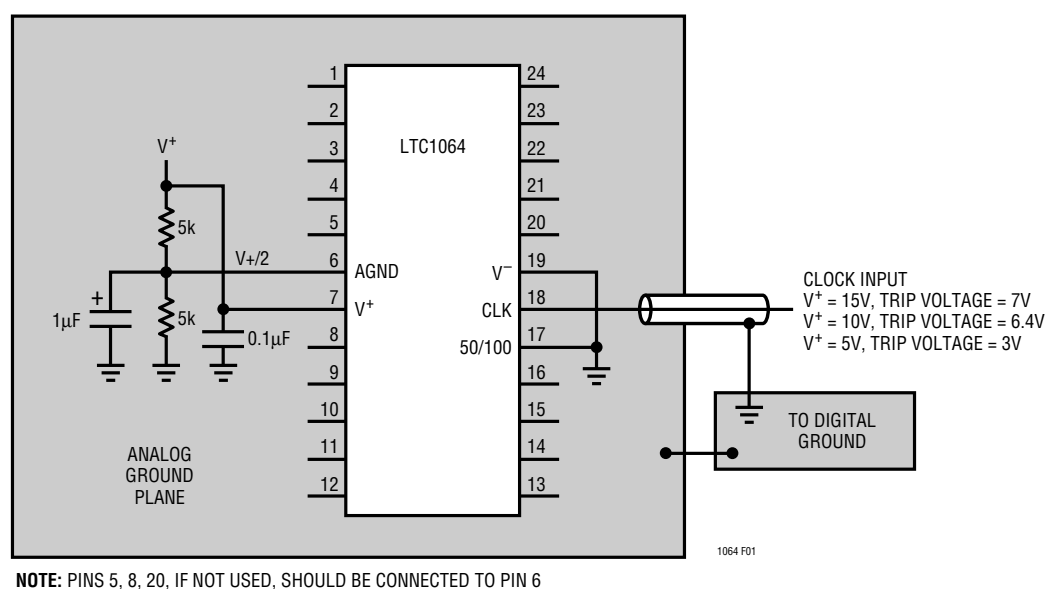

Figure 1. Single Supply Operation
**AGND (Pin 6):** Analog Ground. When the LTC1064 operates with dual supplies, Pin 6 should be tied to system ground. When the LTC1064 operates with a single positive supply, the analog ground pin should be tied to 1/2 supply and it should be bypassed with a 1 $\mu$ F solid tantalum in parallel with a 0.1 $\mu$ F ceramic capacitor, Figure 1. The positive input of all the internal op amps, as well as the common reference of all the internal switches, are internally tied to the analog ground pin. Because of this, a very “clean” ground is recommended.